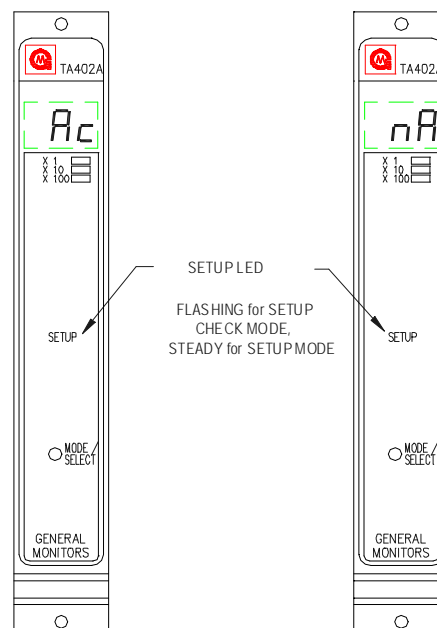

Figure 23
- Following **ct**, the display will indicate the alarm output option during a Card Test as either **Ac**, active or **nA**, not active (figure 23). Press the Mode/Select switch until the desired option is displayed. Not Active is the factory default for this selection.